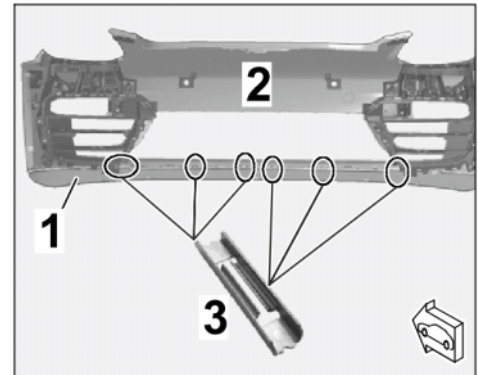

Figure 15
3.1.2 Also secure the front spoiler (lower part) to the front apron with U-clamps (6 x ⇒ *Figure 15*) in the locking lug area (gap between front apron and spoiler visible from outside).